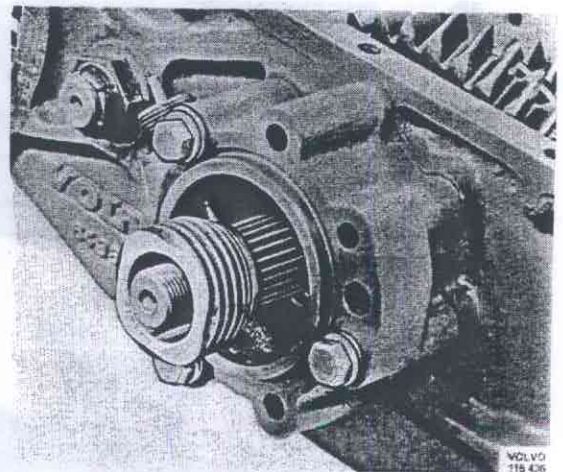
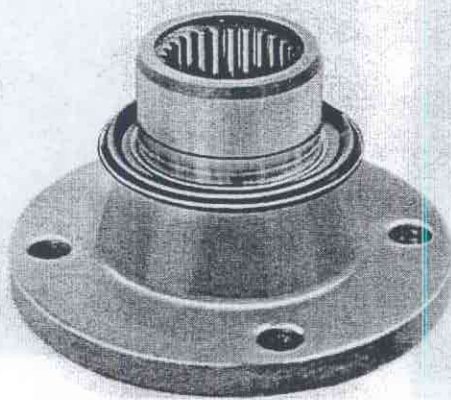
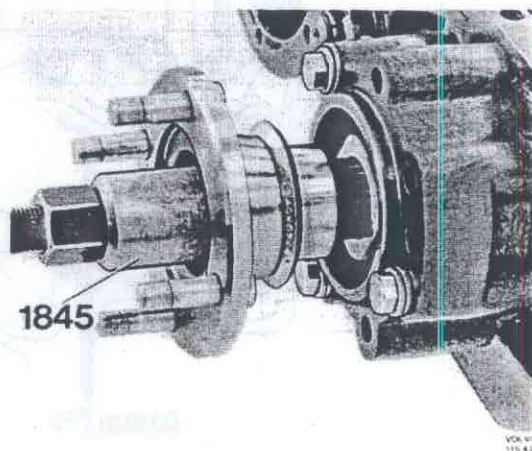

Fig. 43-198. Fitting rear housing half
Fig. 43-199. Flange seal
Fig. 43-200. Pressing on flange
12. Place shims in the rear housing (use those shims removed during disassembling less one shim). Place the outer race in the housing. Fix the housing in position with the three bolts, using double washers under the bolts, Fig. 43-198.
13. Fit the speedometer pinion with the tapered part facing the rear bearing, Fig. 43-198. Fit a new seal on the flange, Fig. 43-199. Pull on the flange with 1845, Fig. 43-200. Coat the sealing lip with grease. Remove the press tool and tighten up the nut. Tighten the nut to a torque of 100–120 Nm (10–12 kpm = 72–87 lbftf).